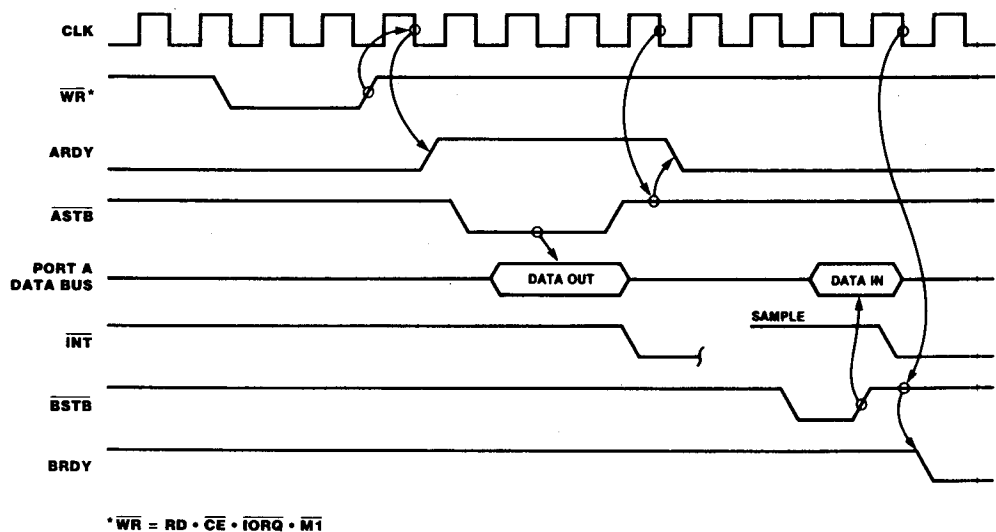

Figure 16. Mode 2 Bidirectional Timing
**Bidirectional Mode (Mode 2).** This is a combination of Modes 0 and 1 using all four handshake lines and the eight Port A I/O lines (Figure 16). Port B must be set to the bit mode and its inputs must be masked. The Port A handshake lines are used for output control and the Port B lines are used for input control. If interrupts occur, Port A's vector will be used during port output and Port B's will be used during port input. Data is allowed out onto the Port A bus only when  $\overline{\text{ASTB}}$  is Low. The rising edge of this strobe can be used to latch the data into the peripheral.